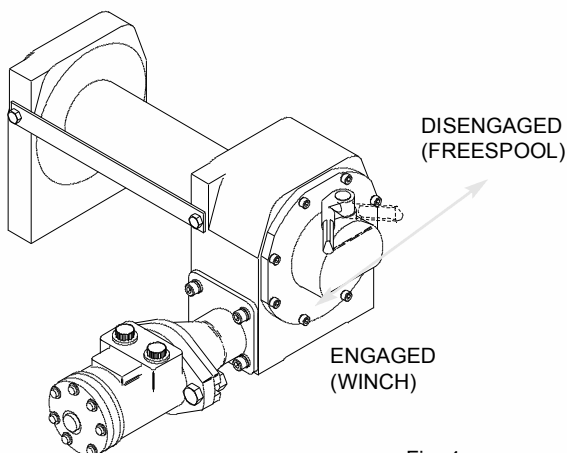

Fig. 4
2. Move the Clutch Handle to the "Disengaged" position as shown in Fig. 4.
4. Move the Clutch Handle to the "Engage" position (Fig. 4). Connect the remote control. If the lever does not slide easily into engagement, it may be necessary to momentarily operate the control switch then release to the off position.
Re-engage the Drum by moving the Clutch Handle to the "Engage" position (Fig. 4). If the handle does not slide easily into engagement, it may be necessary to momentarily operate the control switch then release to the off position.